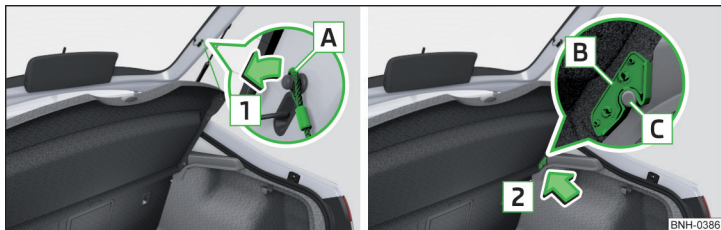

Fig. 78 Removing the boot cover
- Unhook the retaining straps **A** from the flap in the direction of arrow **1** » Fig. 78.
- Position the mounts on the cover **B** onto the side trim panel via pins **C** » Fig. 78.
- The holders **B** on the cover must be resting completely on the pins **C** on the side panel » Fig. 78.
If the support straps **A** » Fig. 78 are attached to the boot, then the boot cover will raise when the boot is opened.